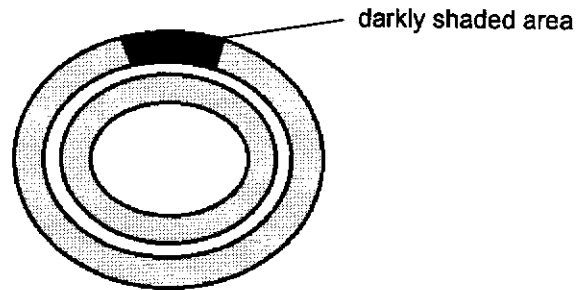

Fig. 3.1
- (a) (i) Use your microscope to observe the different tissues in the region of slide L1 shown by the darkly shaded area in Fig. 3.1. The observed area should include at least **one** vascular bundle and be **affected by fungal infection**.
Draw a large plan diagram of the part of the leaf shown by the shaded area in Fig. 3.1.